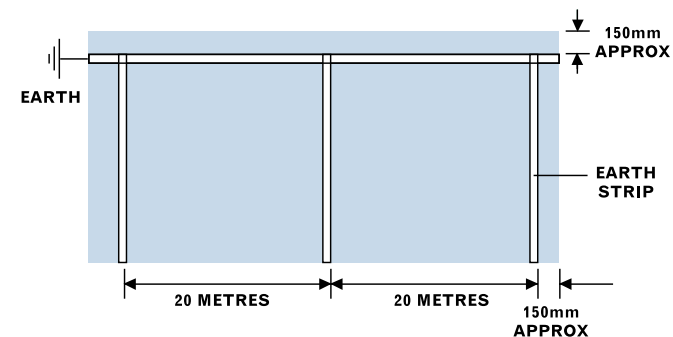

Figure 7.1 Earthing strip layout
7.5.1 Polyflor Static Dissipative (SD) range, OHmega EC and Polyflor EC
- ▶ The earth strip is laid 150mm from one side of the room, in the same direction as the vinyl sheets are to be laid. This strip is connected to a known earth (Figure 7.1).